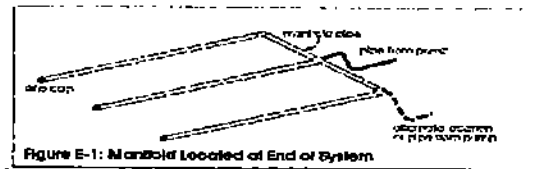

Figure E-1: Manifold Located at End of System
8. If laterals are connected to header pipe as shown in Figure E-1, to select minimum required lateral diameter, enter figure E-4 with perforation spacing (2) and number of perforations per lateral (5).